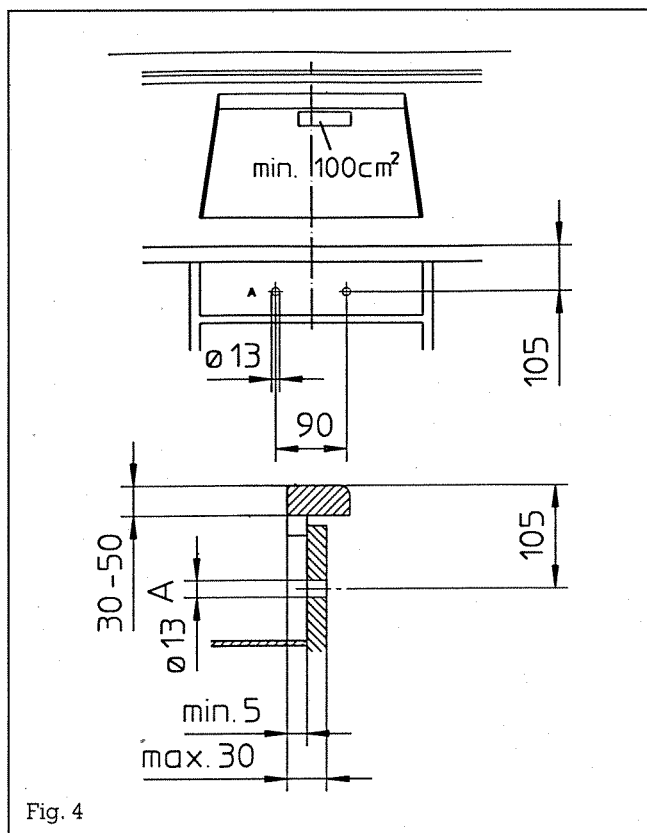

Fig. 4
3. In accordance with Fig. 4 and the drilling template, prepare the holes **A** ($\varnothing$ 13 mm) for the switch shafts in the front of the base cupboard. It is imperative to keep to the 105 mm distance from the top of the work surface to the middle of the hole **A**.